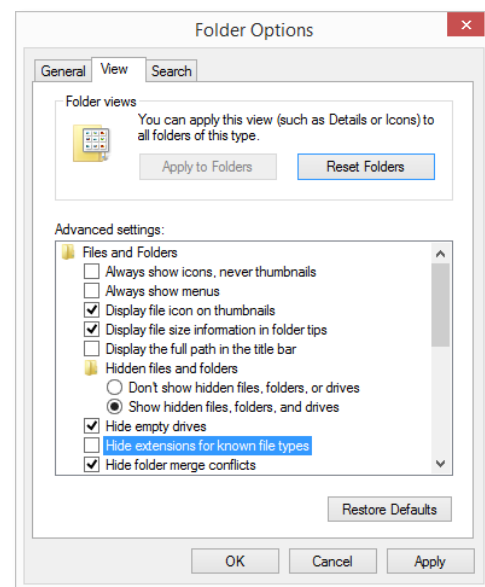

Figure 59: The ‘Folder Options’ window.
3. The ‘Folder Options’ window will appear (**Figure 59**). Select the **View** tab and uncheck the option **Hide extensions for known file types**.